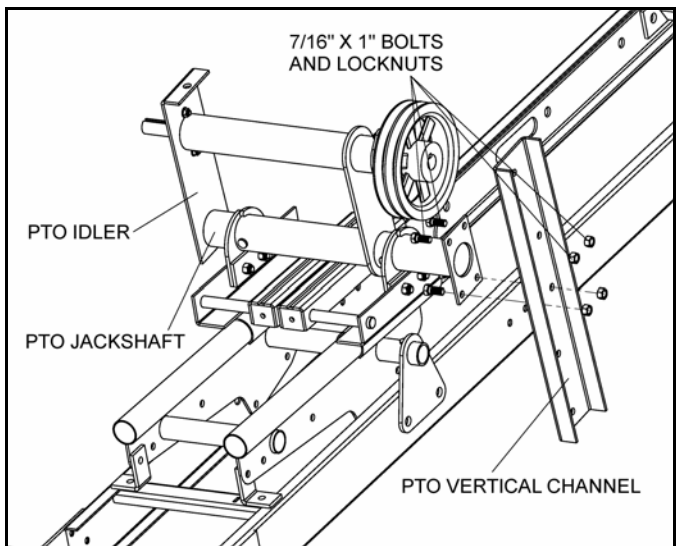

Figure 3.43
5. Install PTO vertical channel to the end of PTO jackshaft with four 7/16" x 1" bolts and locknuts. Ensure that PTO vertical channel is positioned as shown in Figure 3.43.